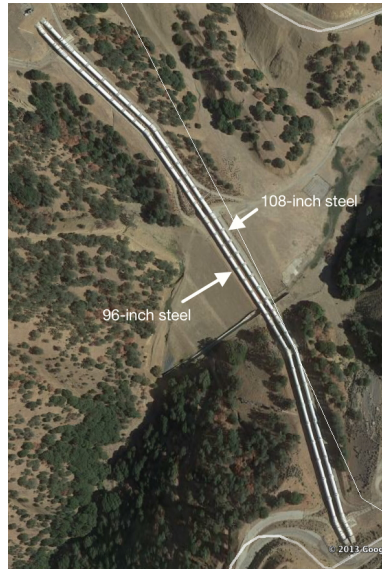

Figure 3: Parallel Pipeline System
4. Figure 3 is an aerial image of a parallel pipeline system in California.